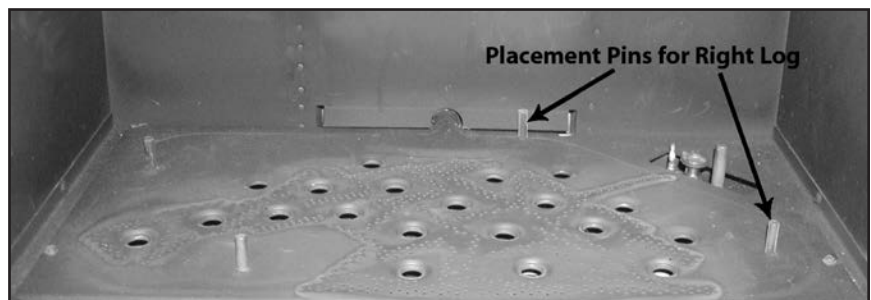

Figure 53: Step 1 of Log Placement.
2. Place the log set into the firebox. Locate each log by seating it down onto the burner tray support pins. Follow Figure 53 to Figure 60 proper log placement.